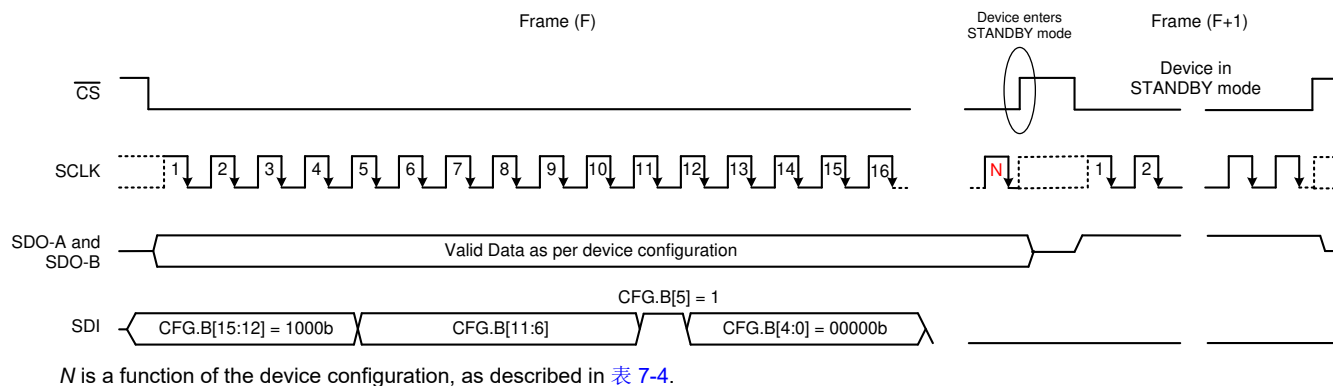

图 7-8. Enter STANDBY Mode
As shown in 图 7-8, a valid write operation in frame (F) programs the configuration register with B5 set to 1 (CFR.B5 = 1) and places the device into a STANDBY mode of operation on the following $\overline{CS}$ rising edge. While in STANDBY mode, SDO_A and SDO_B output all 1s when $\overline{CS}$ is low and remain in 3-state when $\overline{CS}$ is high.